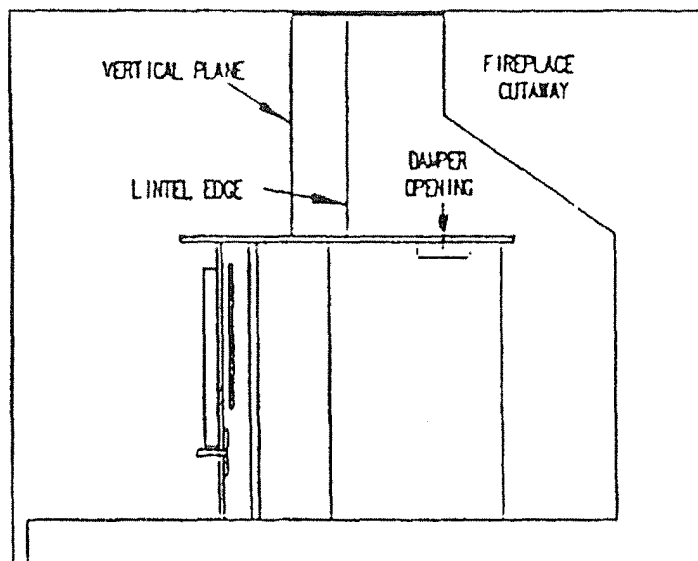

FIGURE 3
When positioning the heater, the following conditions **MUST** be met! (See Figure 3)
1. The front of the damper opening must be positioned **BEHIND** the rear edge of the lintel to ensure proper draft. (See Figure 3)
After the unit is positioned, as shown in Figure 3, mark the mounting position of the trim panels as follows: